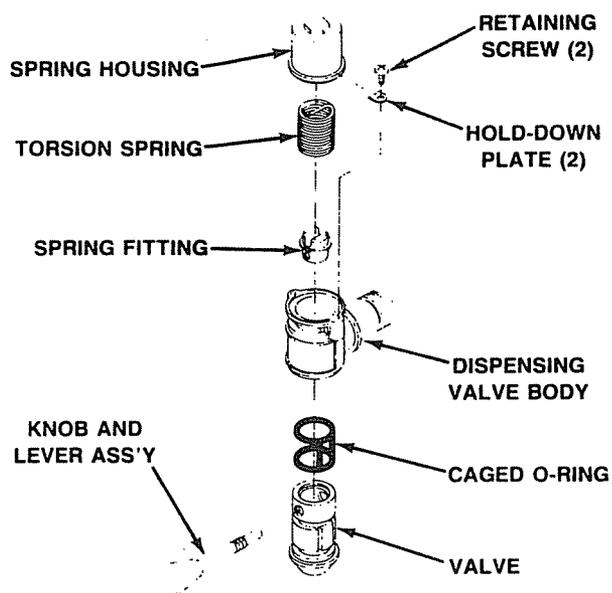
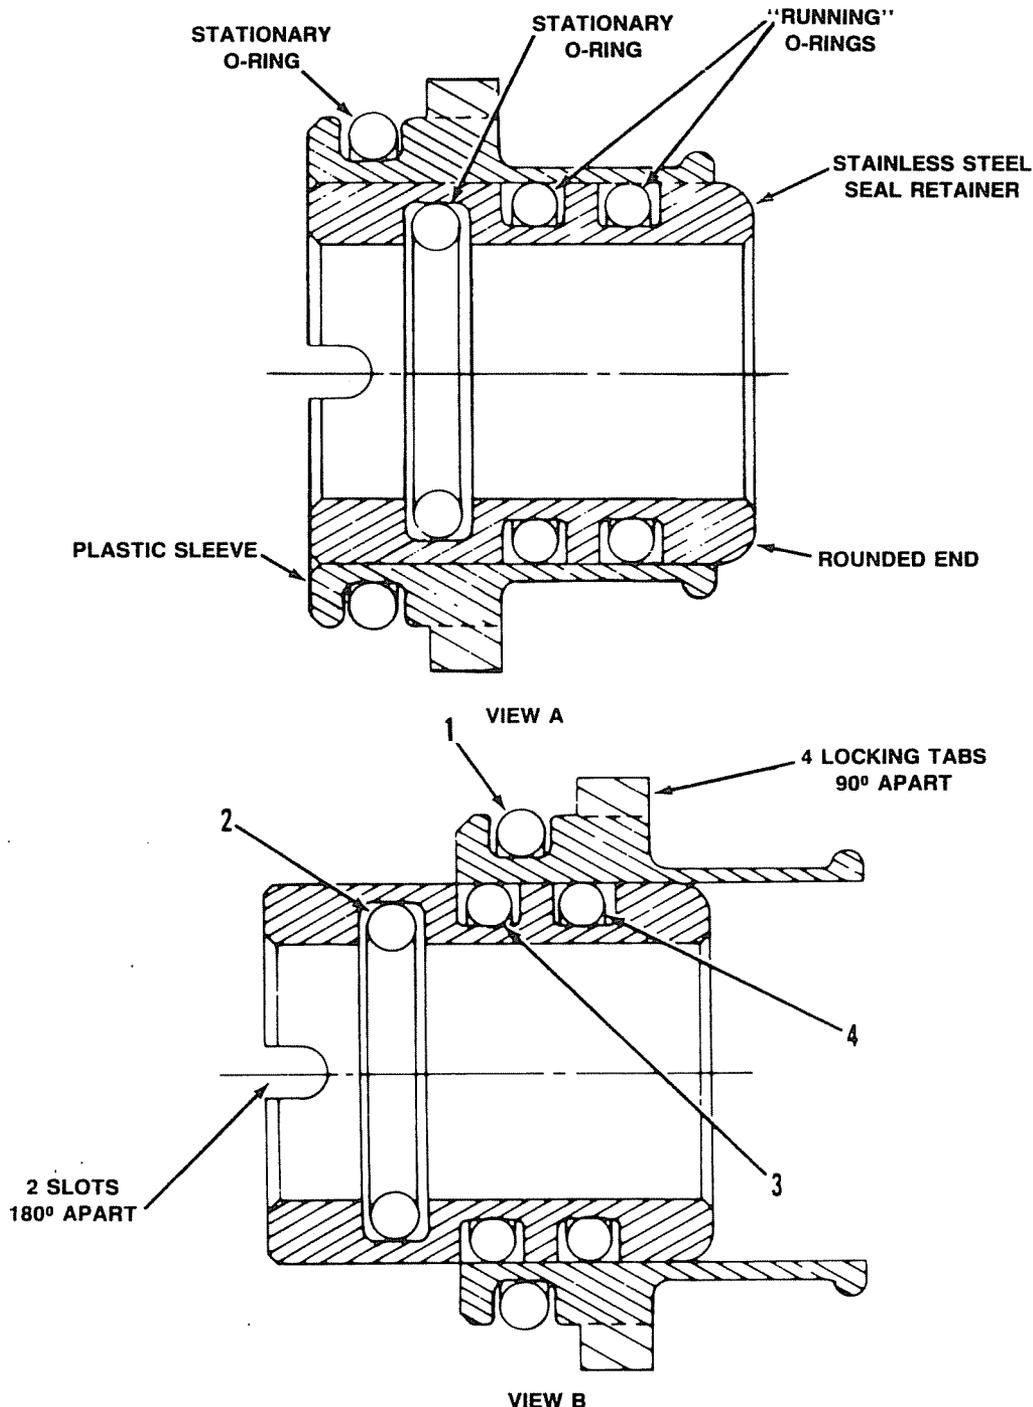

FIGURE 4-3. SELF-CLOSING DISPENSING VALVE
FIGURE 4-4. INSTALLING SHAFT SEAL ASSEMBLY IN FREEZE CYLINDER
Lubricate the viscosity sensor (see Figure 2-1) and dispensing valve caged O-ring (see Figure 4-3) and beater shaft seal assemblies (see Figure 4-4) each time the unit is sanitized as follows:
- 1) Remove HEX NUTS (item 11), and FLAT WASHERS (item 10) to remove faceplate assembly.
- 2) Unscrew RELIEF VALVE (item 13) from FACEPLATE (item 12).
- 3) Hold VISCOSITY ROD (item 9) and unscrew VISCOSITY SENSOR (item 4) from FACEPLATE (item 12). Pull SPINNER (item 5), O-RING (item 20), and TEFLON WASHER (item 22) from viscosity rod. Remove viscosity rod from faceplate. Remove REDUCER (item 21) from viscosity sensor.
- 4) Remove BUSHING (item 16) and O-RINGS (item 8) from FACEPLATE (item 12). Carefully remove O-RINGS from bushing.
- 5) Carefully remove large O-RING (item 8) from FACEPLATE (item 12).
- 6) Disassemble dispensing valve (see Figure 4-3) as follows:
- f. Slide stainless steel seal retainer in plastic sleeve until "running" O-ring No. 3 is just covered by plastic sleeve, as shown in View B of Figure 4-4.
h. Position SCRAPER BLADES (item 2) on nipples at ends of beater cross arms. Place elongated holes in blades on back of BEATER (item 23). Slide beater into freeze cylinder so slotted hooks engage DRIVE PINS (item 24) on DRIVE SHAFT (item 25). Turn beater clockwise to lock in place.
i. Position large O-RING (item 8) on FACEPLATE (item 12). Install faceplate on unit so dispensing valve spout faces down and VISCOSITY ROD (item 9) is positioned in slot of SWITCH ACTUATOR (item 7). Lubricate O-RING (item 8) *with water* to facilitate faceplate installation. Tighten hex nuts until faceplate touches freeze cylinder all around flange. CAUTION - DO NOT OVERTIGHTEN HEX NUTS.